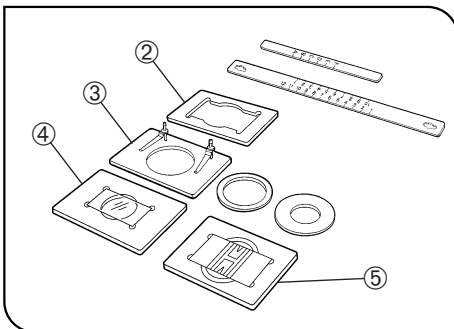

Fig. 15
Ⓞ To secure other vessels than microtiter plates, various optional holders are available. A Terasaki plate holder ② is available for holding Terasaki plates (72-well, or 60-well). When using this, it is necessary to replace the stage scales with those provided with the plate holder. Petri dish holder ③ is available for 35 mm, 54 mm and 65 mm diameter petri dishes, and a slide glass holder ④ is available for holding slide glass, and the IX2-BCTP* ⑤ is available for a blood cell test plate holder. (Fig. 15)
1. 96-well or 24-well microtiter plates can be held directly in place by widening the specimen holder ①.
- Terasaki plate holder ② (AB4488): For test plate, 35 mm diameter petri dish holder ④ or 65 mm diameter petri dish
- Slide glass holder ③ (AB4489): For slide glass or 54 mm petri dish
- Ⓞ The IX2-BCTP blood cell test plate holder (Fig. 15 ⑤) can also be used.